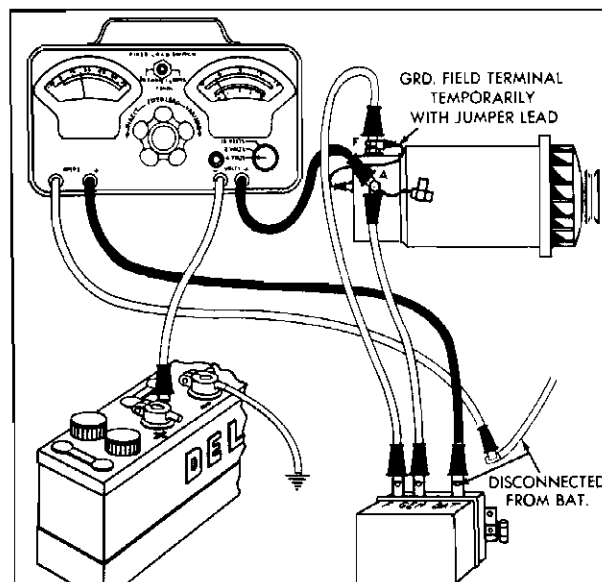

Fig. 11-12 Generator Circuit Resistance Test-Insulated Side
3. Connect test leads as shown in Fig. 11-12.